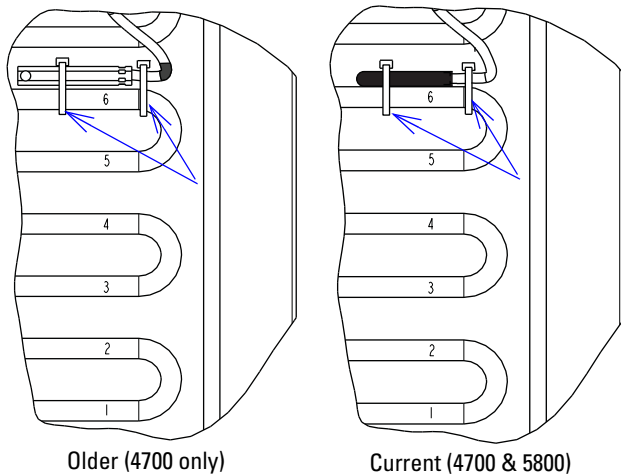

Figure 8: Removing evaporator temp sensor
3. The evaporator sensor is mounted on the sixth coil up on the evaporator (see Figure 8). Note that some older 4700s have a metal sensor, while current models have a black rubber molded housing. Cut the ties holding the evaporator sensor in place and move it out of the frame.
- Using the two plastic cable ties, mount the black sensor on the sixth coil of the evaporator as shown in Figure 8.